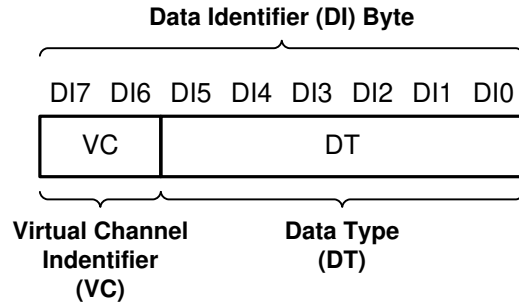

Figure 7-11. CSI-2 Data Identifier Structure
The DS90UB936-Q1 MIPI CSI-2 protocol interface transmits the data identifier byte containing the values for the virtual channel ID (VC) and data type (DT) for the application specific payload data, as shown in Figure 7-11. The virtual channel ID is contained in the 2 MSBs of the data identifier byte and identify the data as directed to one of four virtual channels. The value of the data type is contained in the six LSBs of the data identifier byte. When partnered with a DS90UB935-Q1 serializer, the Data Type is passed through from the received CSI-2 packets. When partnered with DS90UB933-Q1 or DS90UB913A-Q1 the received RAW mode data is converted to CSI-2 Tx packets with assigned data type and virtual channel ID and matches what is sent by the video source.